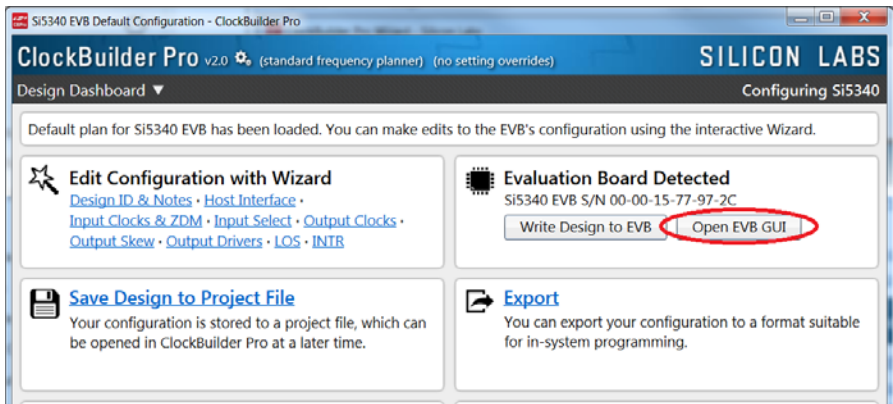

Figure 13. Open EVB GUI
5. After CBPro writes the default plan to the EVB, click on **Open EVB GUI** as shown in Figure 13.